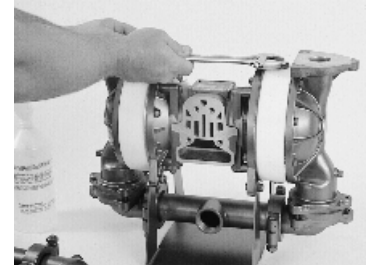

Fig. 5 Tighten the boss plug.
6. When the driver fluid rises to the top of the fill plug hole, screw the boss plug, with o-ring installed, into the chamber (see Figure 5). (Do not overtighten.) Remember to keep pressure on the Teflon diaphragm until the boss plug is tight to prevent air from drawing back into the chamber.